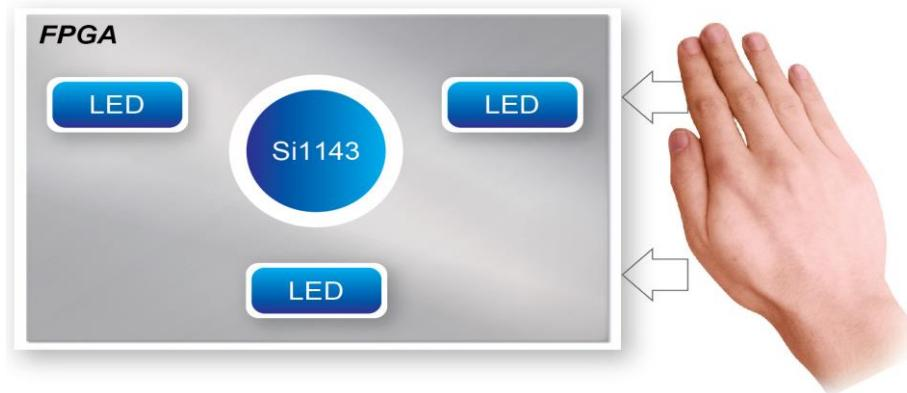

Figure 7-8 "Left Swipe" demonstration
- In Forced Conversion Mode terminal will display the PS1(proximity sensing) data, PS2 data and PS3 data as shown in Figure 7-8.
- After press KEY[0] to switch to Type 2, if the gesture detection is success the result will print on NIOS Terminal for corresponding swipe as shown in Figure 7-8, “Left” will be printed out.